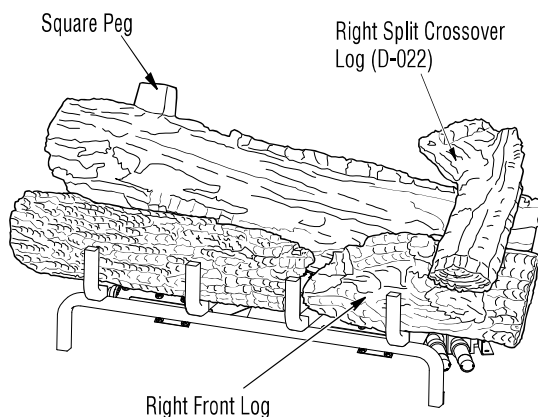

Figure 29 - Installing Right Split Crossover Log
- Find the right split crossover log (D-022). The bottom of the log has a rectangular stand off that fits in the slots on the right side of the front right log and the middle split log. Place this log as shown in **Figure 29**.